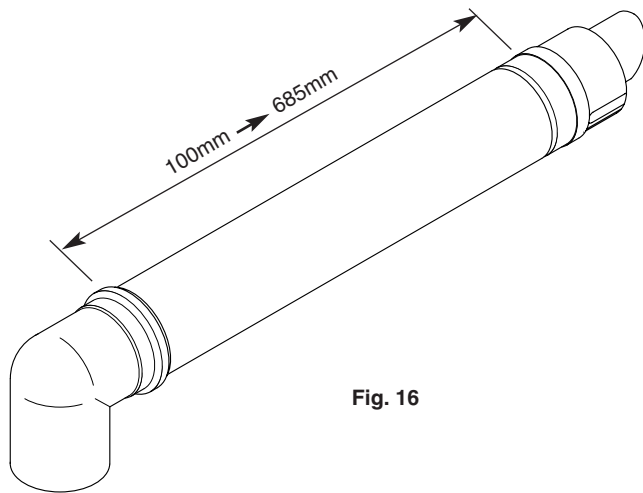

Fig. 16
1. The standard flue is suitable for lengths between 100mm minimum and 685mm maximum, as measured from the edge of the flue elbow outlet to the joint between the terminal and air duct (Fig. 16).